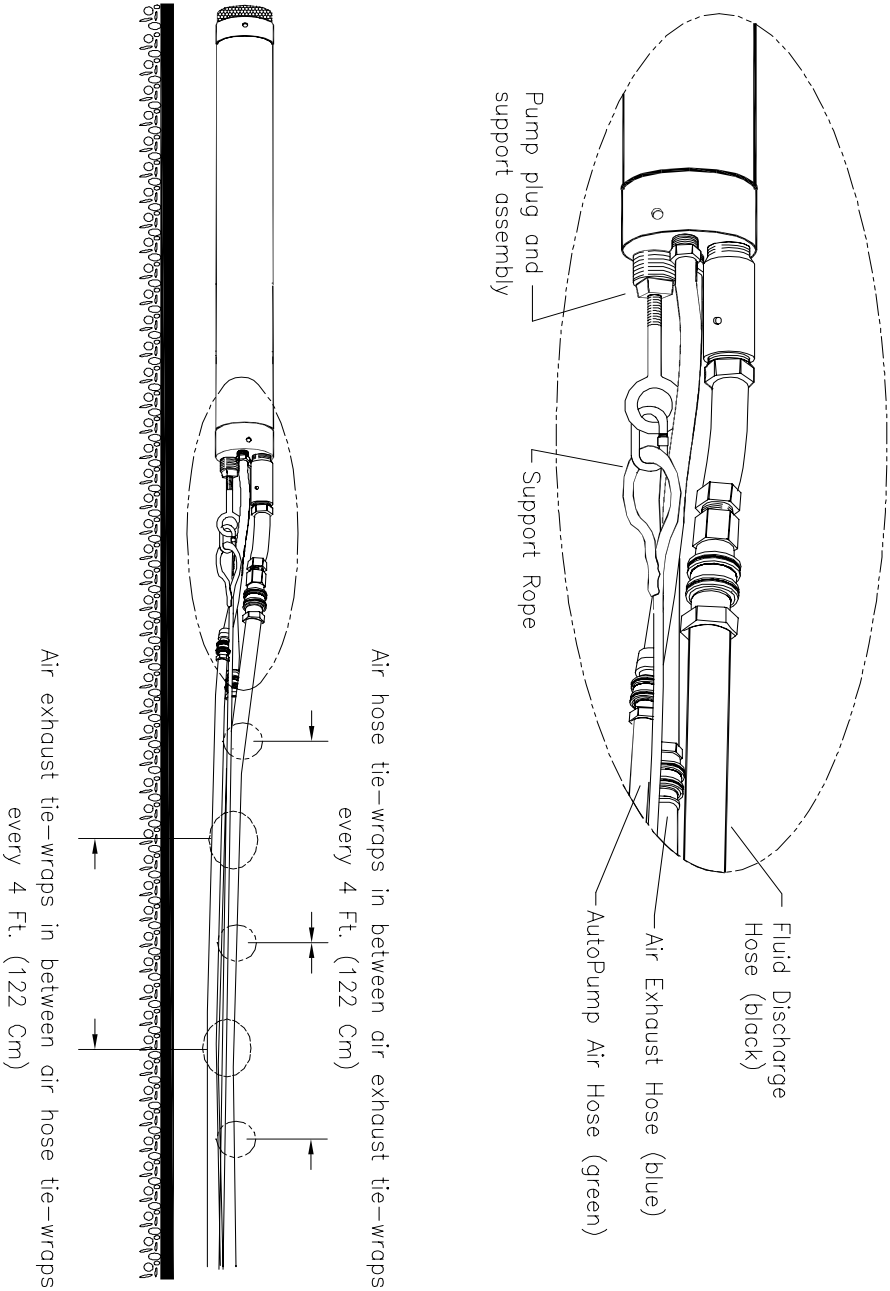

Figure 12 - Hose Bundling: Part 1 of 2
(See Figure 12 on page 33, and Figure 13 on page 34)
- STEP 3 -** Connect the quick-link assembly on the support rope to the eye on the AP-2 and lay the support rope out along with the hoses. Make sure that none of the hoses or support ropes are crossing over each other. **(See Figure 12)**
- STEP 4 -** Starting at the AutoPump end of the hose, put a tie-wrap through the center of the braided support rope just above the uppermost quick-connect or barb on the AutoPump. **(See Figure 12 and Figure 13)**
- STEP 5 -** Pulling the rope taut, put the tie-wrap around the fluid discharge hose with the rough surface outwards. Cross the ends and complete the figure-8 pattern by securing the ends around the exhaust hose. When you connect the tie-wrap make sure it is straight and is not kinking the hoses. **(See Figure 12 and Figure 13)**